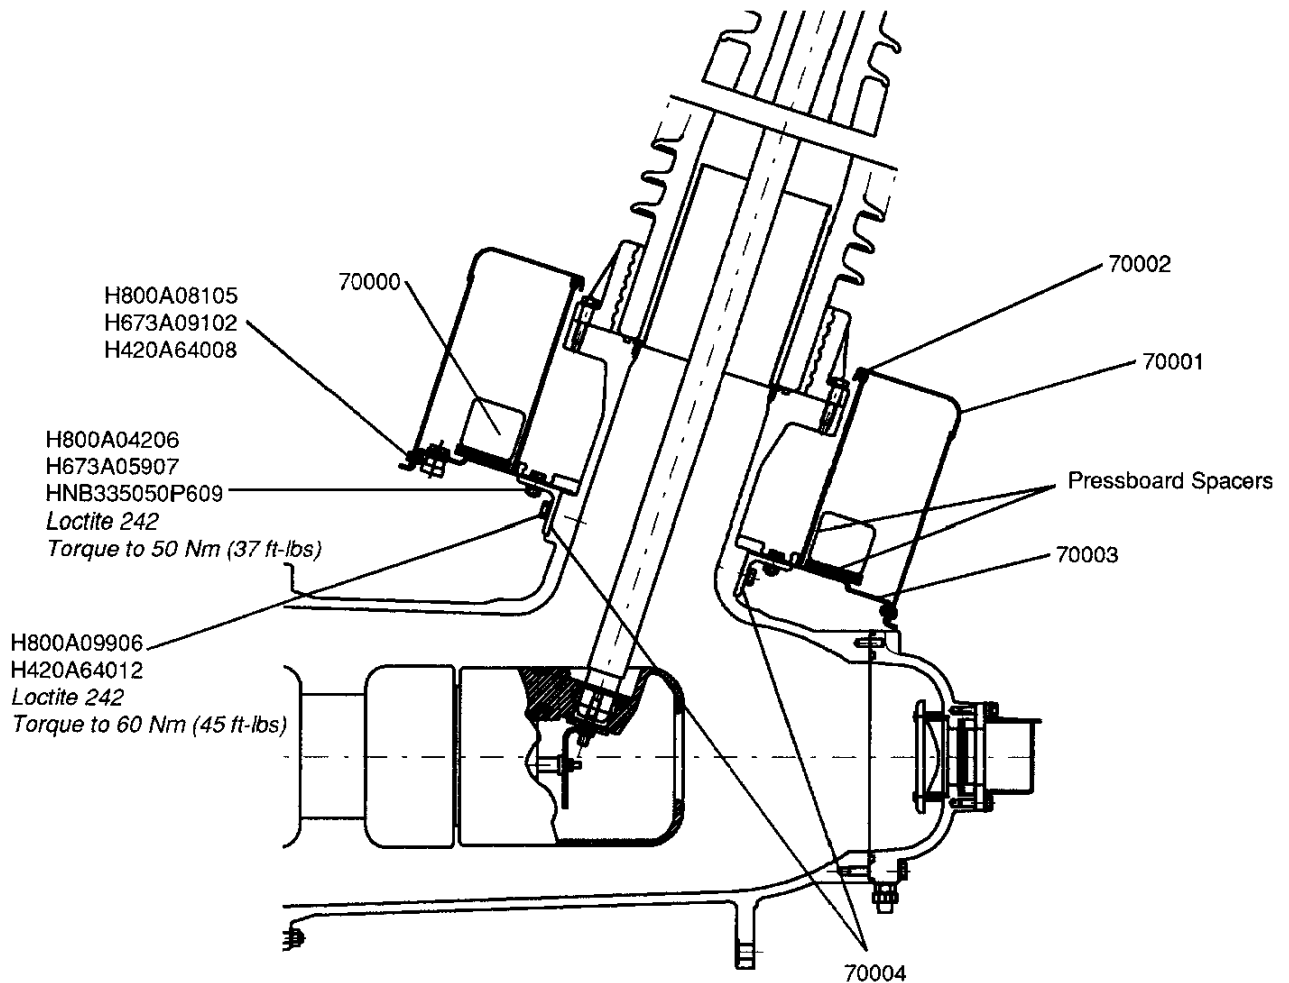

Figure 1
The CT protective cover 70001 (Fig. 1) is removed whenever a CT 70000 needs to be added, replaced, or removed.
2. While lowering the CT in place, install the appropriate number of pressboard spacers (Fig. 1) between the CTs to attain the following approximate gap clearances:
Pressboard spacers must be installed to ensure that the CTs are isolated from the CT protective cover 70001 and bottom support 70003 (Fig. 1).
When re-installing the CT protective cover 70001 (Fig. 1), be careful not to damage the insulating seal 70002 around the lip of the bottom support 70003. This seal serves both as a weather seal and an insulating barrier. Without this insulating barrier, the CT protective cover would form a continuous conducting loop around the CTs, thereby shorting them and jeopardizing CT accuracy.
1	Figure 1